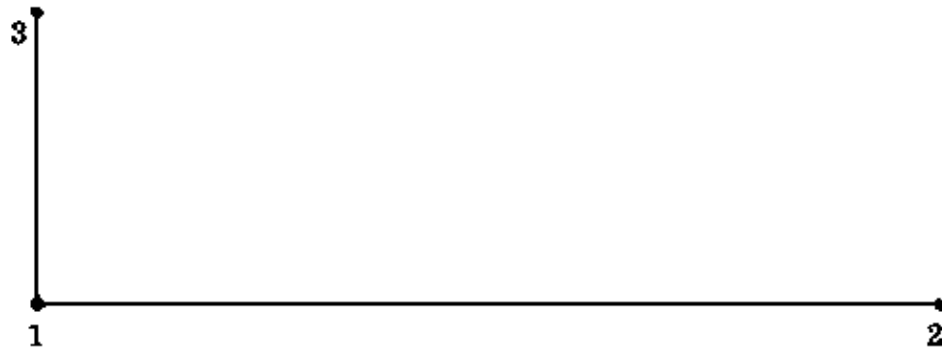

Fig. 1
- a. Drive pegs 1 and 2 in the ground at a distance equal to the span of the hip truss (the span is measured as described on the previous page). Fix a line between the pegs (Fig. 1).
- b. Fix a line perpendicular to line 1–2, starting from peg 1 (Fig. 1).
- c. Drive peg 3 at a distance equal to the rise of the hip truss (Fig. 1).